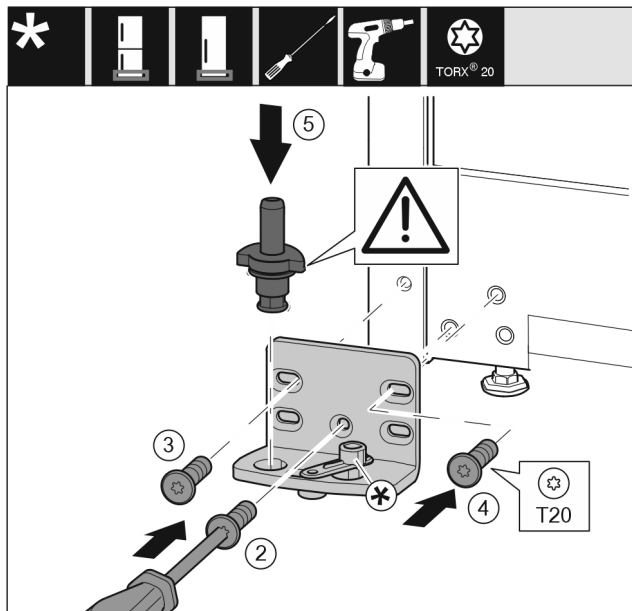

Fig. 16
- Place the bearing bracket on the other side and screw it on with a T20 screwdriver. Start with screw 2 at the bottom in the middle. Fig. 16 (2)
- Screw in screws 3 and 4 tightly. Fig. 16 (3,4)
- Insert the bearing pin completely. Make sure that the latching lug is pointing to the rear. Fig. 16 (5)